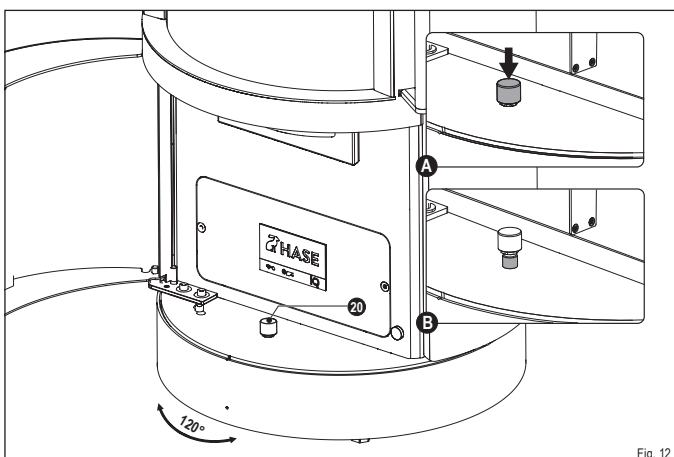

Fig. 12
On delivery, the button (18) on the rotating console is in the locked position (Fig. 12):
- ▶ **Press the button (20) to unlock (Section A).**
- ✓ **Once in the desired position, press the button (20) again to lock the rotating console again.**
The stove has a maximum rotation angle of 120 degrees (Fig. 12).